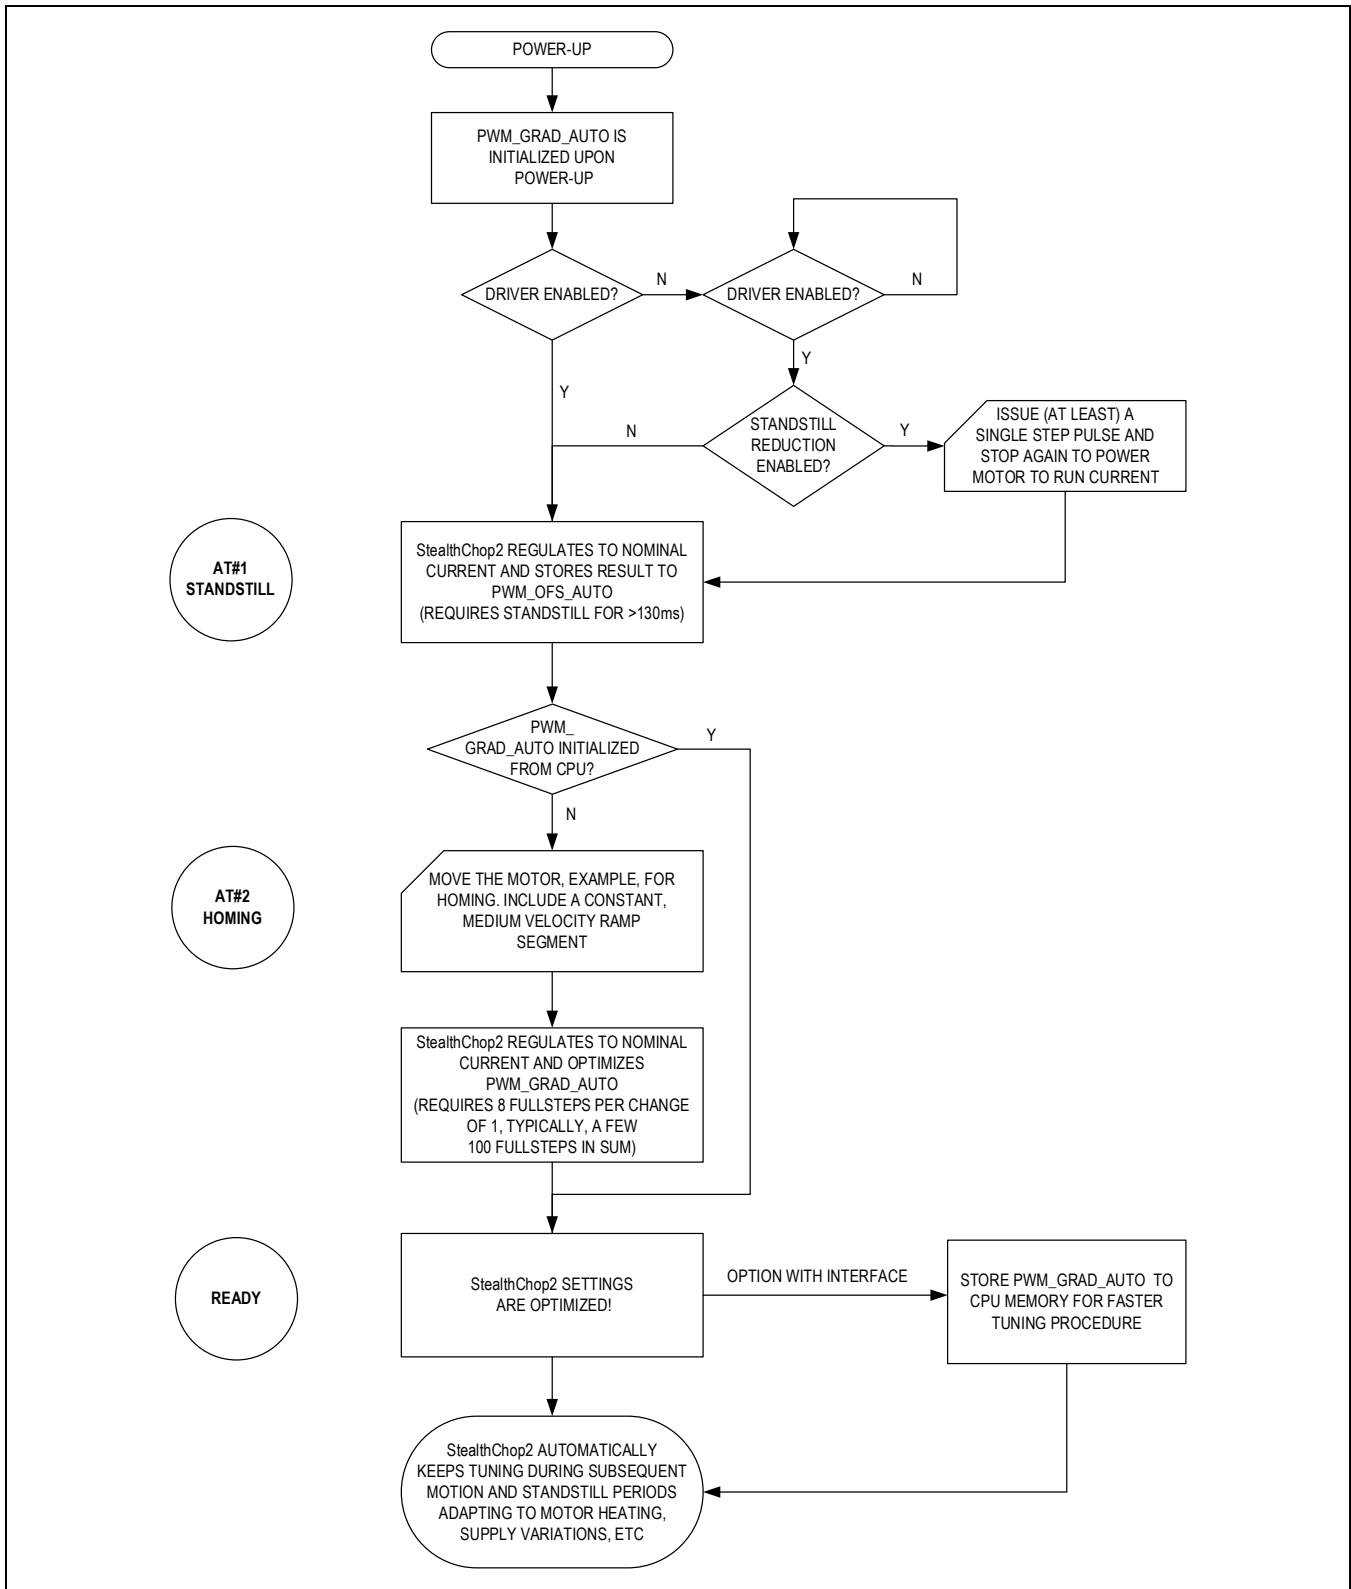

Figure 7. StealthChop2 Automatic Tuning Procedure
StealthChop2 integrates an automatic tuning (AT) procedure, which adapts the most important operating parameters to the motor automatically. This way, StealthChop2 allows high motor dynamics and supports powering down the motor to very low currents. Just two steps account for best results: start with the motor in standstill, but powered with nominal run current (AT#1). Move the motor at a medium velocity, for example, as part of a homing procedure (AT#2). The flowchart in Figure 7 shows the tuning procedure.